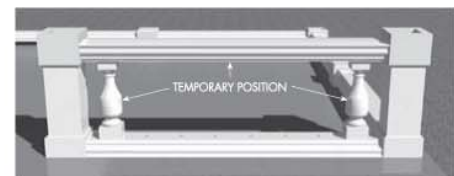

FIGURE 6C
**C)** Temporarily position BALUSTERS on each end of BALUSTER BOTTOM RAIL. Temporarily position BALUSTER TOP RAIL and the remaining NEWEL POST components to visualize and determine height of the NEWEL POST (Fig. 6C). If the NEWEL POST is too high, the TOP SECTION, CENTER SECTION and/or BOTTOM SECTION of the NEWEL POST can be trimmed.